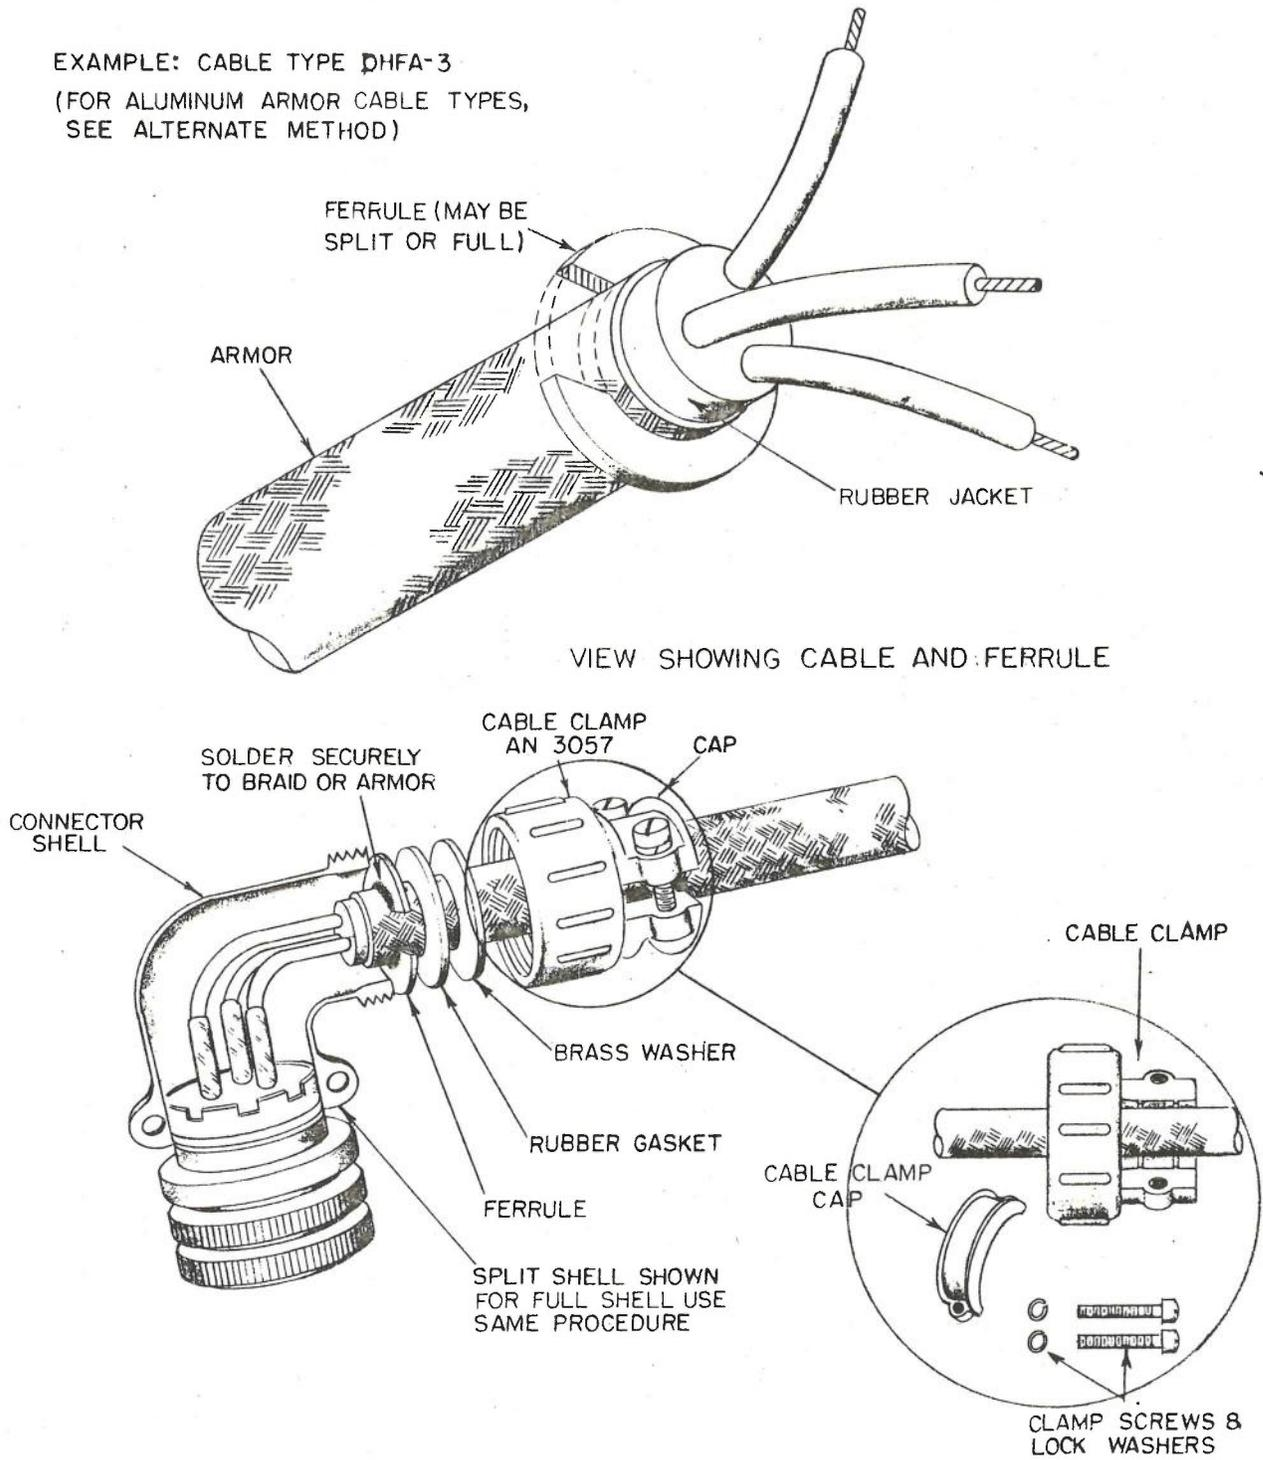

Figure 5-52. Terminating Cable Armor at "AN" Connectors
c. METHOD OF TERMINATING ARMORED CABLE AND SHIELDS AT "AN" CONNECTORS. - If an armored cable is terminated at an equipment by an "AN" type connector, a cable clamp must be used to provide continuity between the armor and the connector shell and to provide a good RF ground. Cable clamp AN 3057 is used with AN 3106 and AN 3108 standard plug. It may be used with AN 3101 cable connecting receptacle and AN 3100 receptacles when required to hold cables in order to prevent twisting or pulling of soldered connections and to secure cable armor or shields. This clamp is available in various sizes to fit any cable size from an outer diameter of 5/16 to 2-5/8 inch maximum. These sizes are shown in Table 5-8. The assembly of cable clamp AN 3057 is shown in Figure 5-52.
The approved method of clamping the cable armor is as follows (see Figure 5-52):